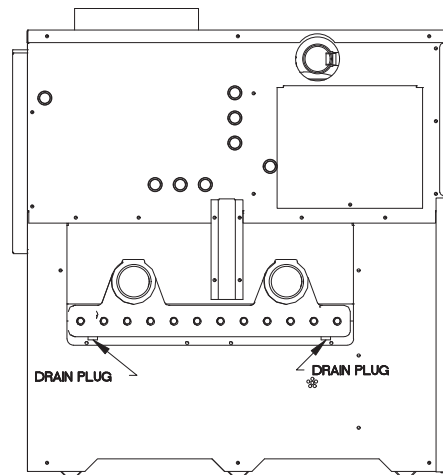

Figure 3 – Draining Pool Heater
- d. Drain the pool heater completely. Remove the threaded drain plugs from the inlet and outlet sides of the front header on the heat exchanger (see Figure 3). Blow all water out of the heat exchanger. Leave drains open until Spring;